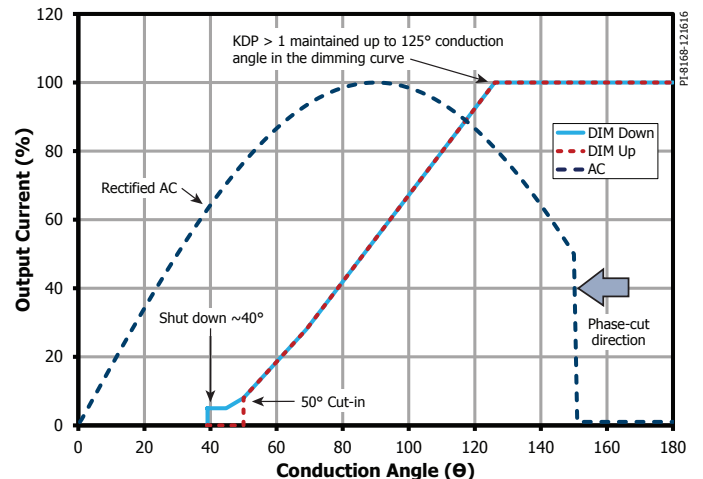

Figure 7. Minimum Dimming Curve with RBS = 12 kΩ Dimming Curve Programming Resistor with Load Shut Down (LSD).
Depending on the designer’s dimming preference, there are three (3) dimming curves to choose from, which can be programmed through a selection of R_{BS} resistor value shown in Table 5. The 24 kΩ R_{BS} selection has Load Shut Down (LSD) feature, in which the IC terminates the switching once conduction angle falls below 40° and remains off unless the conduction angle increases above 50° (see Figure 7). During the LSD condition the bleeder is active to keep the TRIAC dimmer conducting to minimize pop-on and dead travel. Should the TRIAC unable to maintain conducting, the bleeder would still be active to keep the input voltage from rising due to a leakage current from the dimmer, this prevents possible ghosting or fluttering of the light output while the dimmer is off. Usually the voltage leaks via the pilot lamp and / or a large internal shunt capacitor of a dimmer.